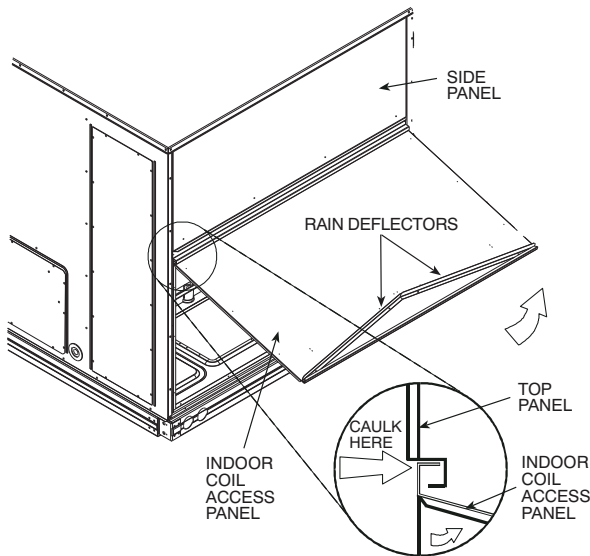

Fig. 29 — Indoor Coil Access Panel Relocation (Size 16)
1. The indoor coil access panel will be used as the top of the hood. If the panel is still attached to the unit, remove the screws along the sides and bottom of the panel. See Fig. 29.
7. Install the two rain deflectors on the edge of the hood top as shown in Fig. 29.
8. Caulk the ends of the joint between the unit top panel and the hood top as shown in Fig. 29.